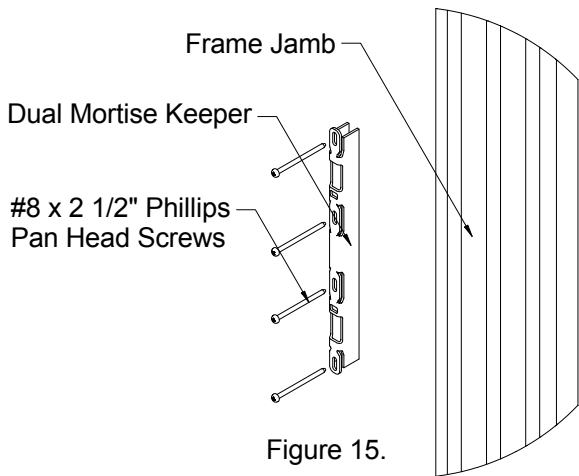

Figure 15.
Step 21. (Keeper Installation) To complete the frame installation, use the supplied #8 x 2 1/2" stainless steel phillips pan head screws to install the dual mortise keeper (See Figure 15). There will be dimples in the frame jamb to help locate the keeper.